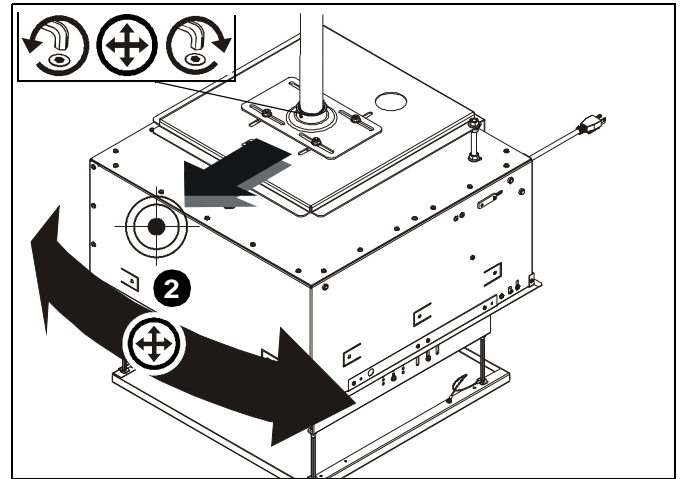

Figure 10
1. Loosen set screw on top slide plate pipe connector. (See Figure 10)
2. Adjust YAW position until set screw faces target. (See Figure 10)
3. Tighten set screw on top slide plate pipe connector. (See Figure 10)